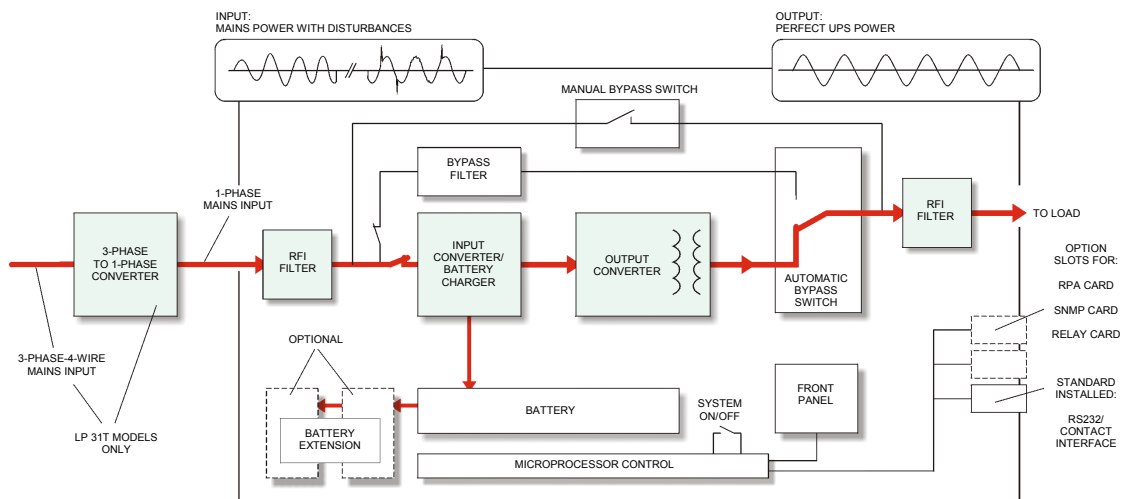

Figure 1. Block diagram of the **Digital Energy™ LP 11/31T UPS**, mains present
The UPS stores electric energy in batteries housed in the unit. This allows the system to supply output power even when the incoming mains power is cut off completely. Because energy can only be stored as Direct Current (DC), but input and output energy must be Alternating Current (AC) in sine wave form, the UPS also contains an input converter (AC to DC) and an output converter (DC to AC) (fig.1).